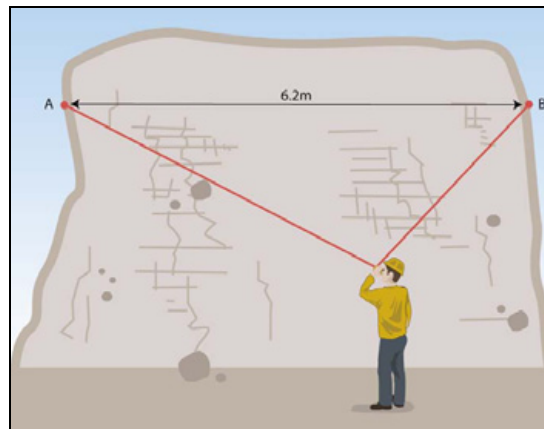

Figure 5.4 Measuring face width
2. Point and shoot the laser at Point A, shown in Figure 5.4. The unit beeps to confirm the measurement has been taken.